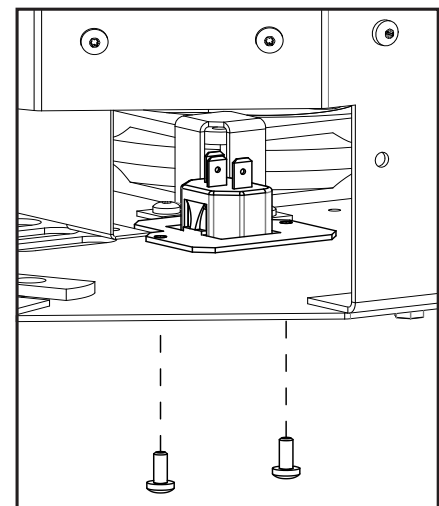

Figure 81: Electrical Plug Connection
5. Attach the adapter plate through the firebox reusing the two (2) T20 screws (see Figure 81).